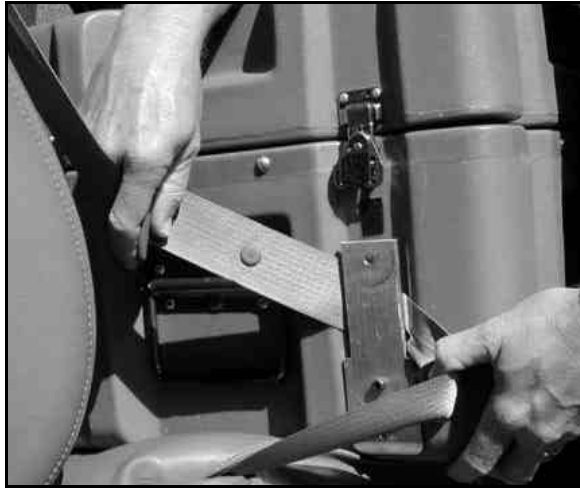

Figure 3.4 Placing Seatbelt in Retention Loop
- 3 Guide the seat belt through the seat belt retention loop, as shown in Figure 3.4.